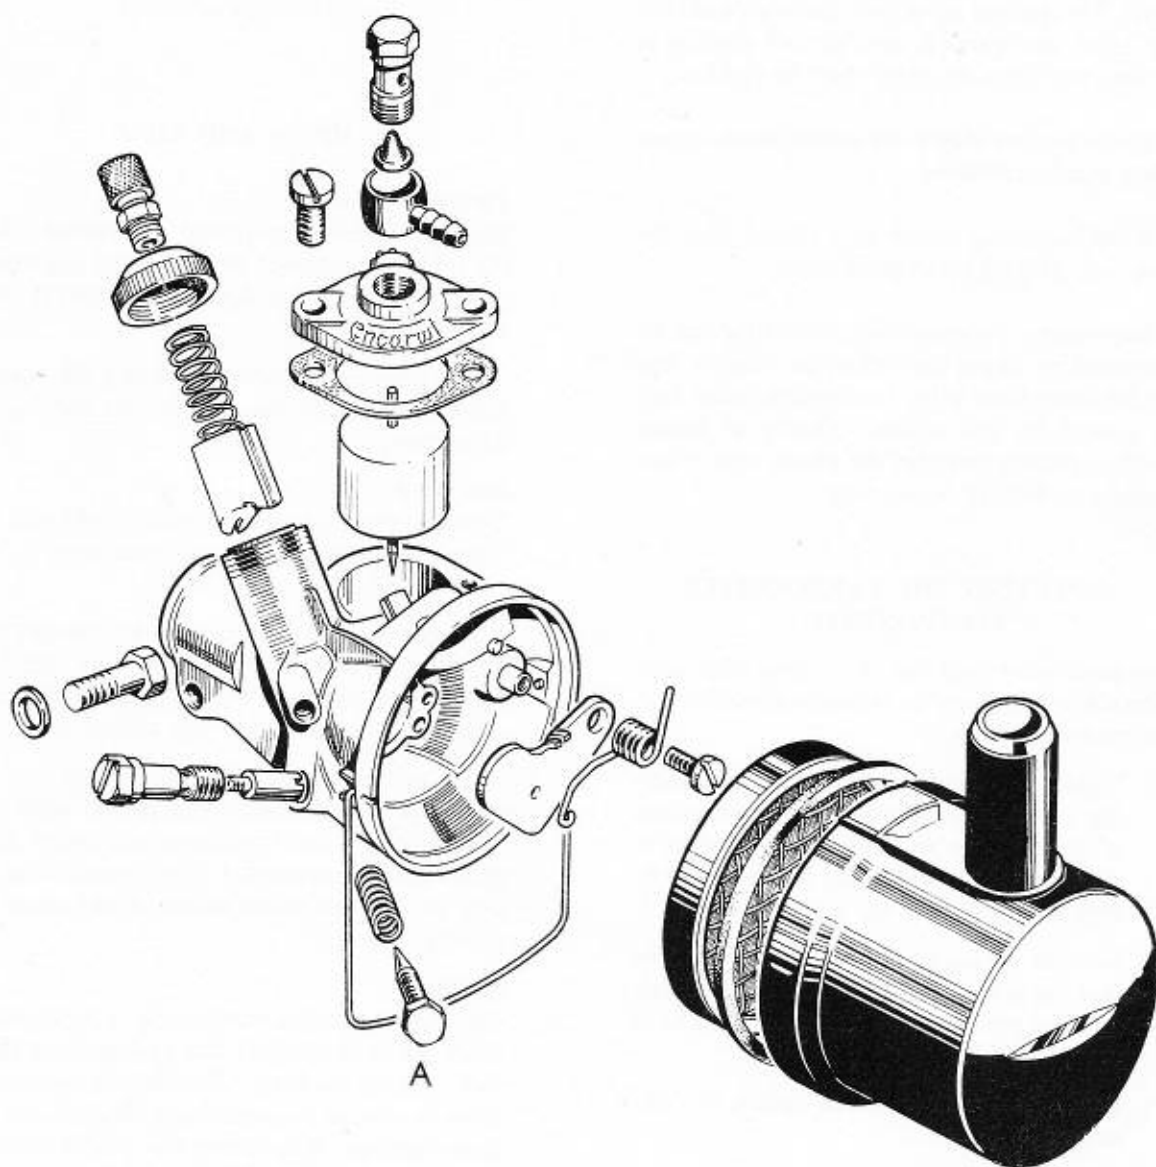

FIG. C1.
Refer to Fig. C1 for guidance.
Make sure that the throttle is fully closed and then turn the spring-loaded screw (A) Fig. C1, in or out until the engine is ticking-over slowly but smoothly, now see that the machine does not creep forward, and also see that it can be pushed backwards without any resistance.